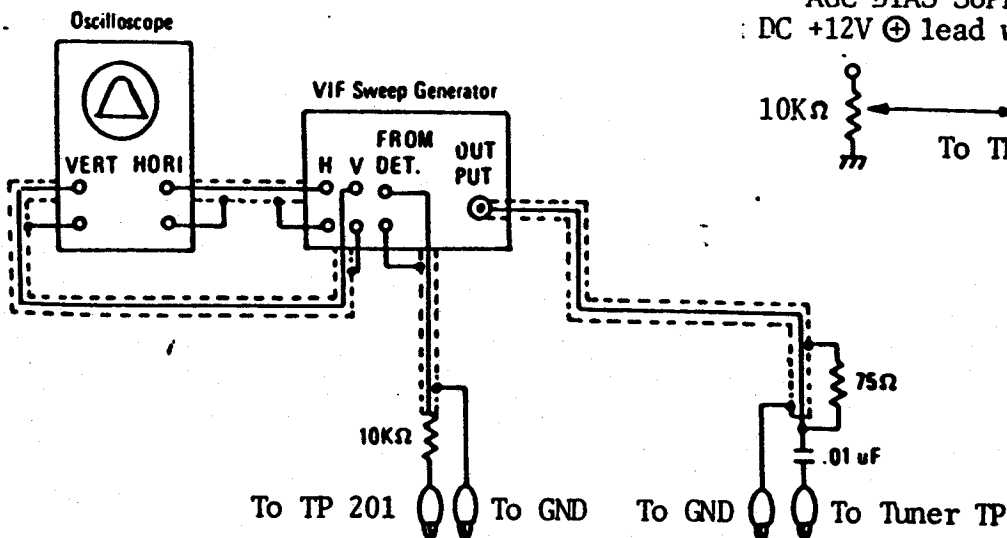

Fig. 2
A. PREPARATION STEP (SEE Fig. 2)
A. PREPARATION STEP (See Fig.2)